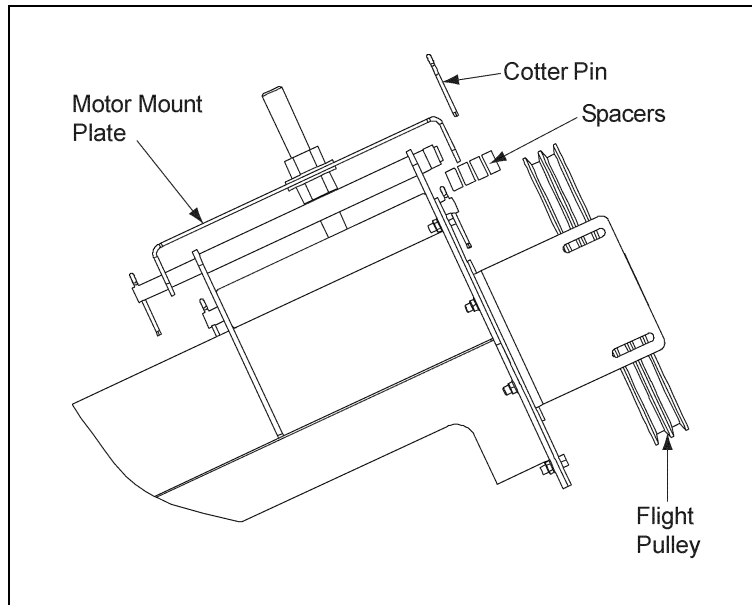

Figure 4K
- B. Install pulley onto motor shaft making sure that it is aligned with the flight pulley. It may be necessary to move spacers to gain shaft alignment. (See Figure 4K)